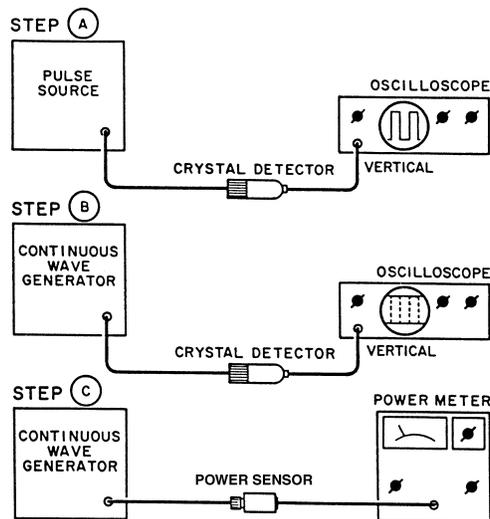

Figure 1 Peak Power Measurement
Refer to Figure 1 for the equipment setup in the steps referenced below.
- a. Connect equipment as shown in Figure 1, step A.